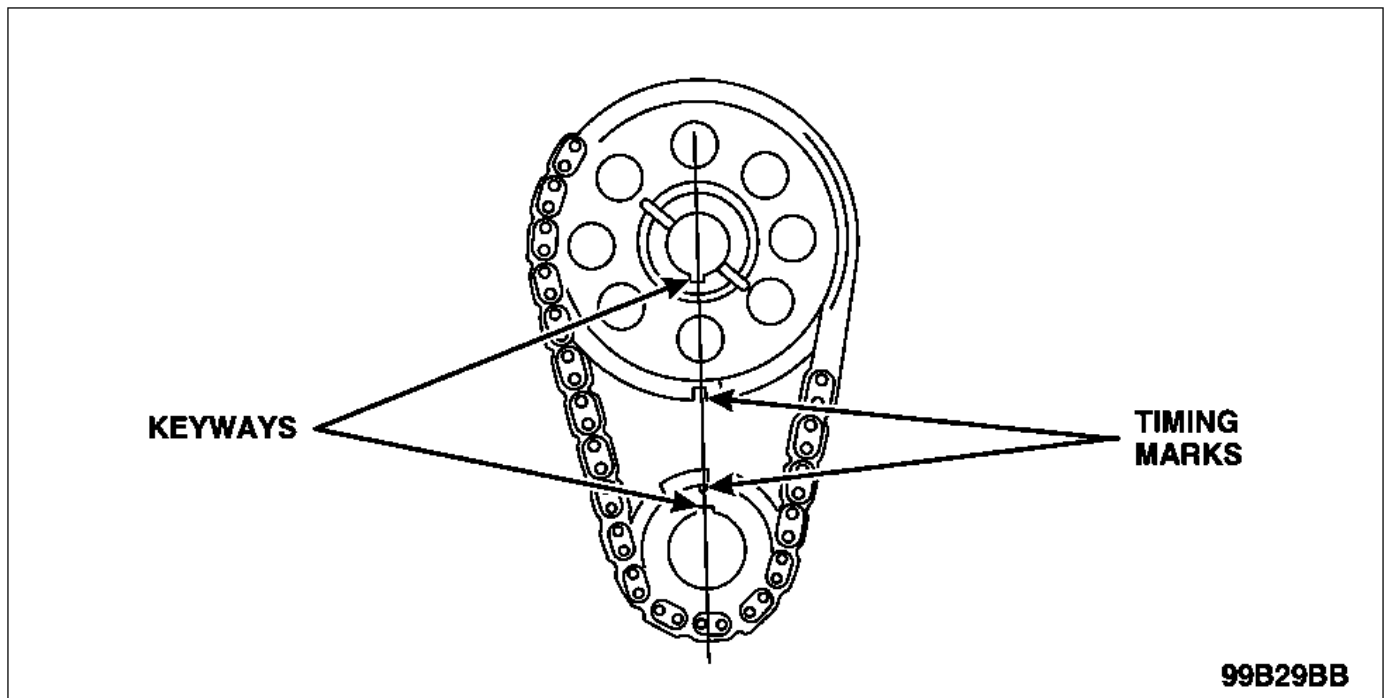

FIGURE 28
51. Rotate the crankshaft until the timing marks and the keyways are aligned. See Figure 28. This will position cylinder number 1 at TDC of the compression stroke, which is also required for camshaft synchronizer assembly installation.